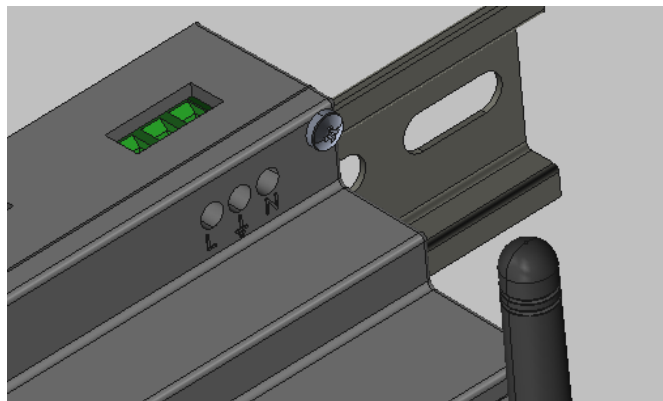

Figure 7 - 3-pin terminal block
- 2) Connect the AC power cable as shown the 3-pin terminal block (Figure 7).